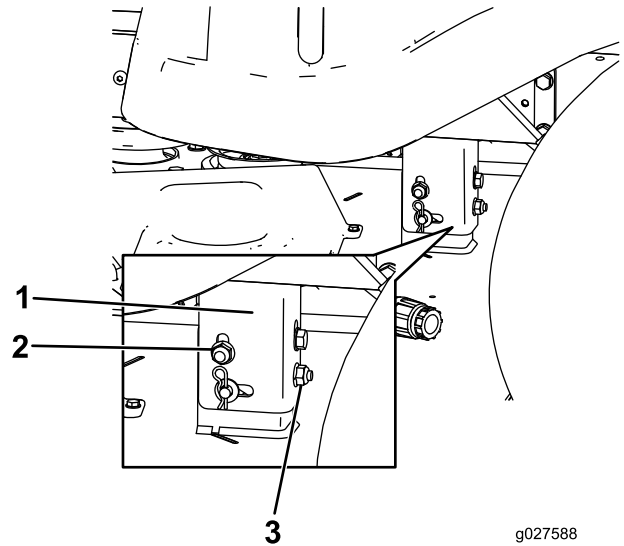

Figure 50
8. Raise or lower the left side of the mower deck by rotating the rear nut. (Figure 50).